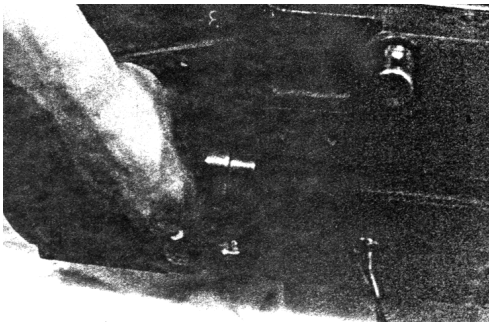
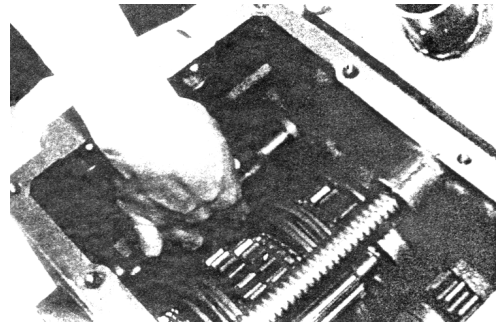

Fig. 3-23
Fig. 3-24
c) Properly fix the shaft arm (See Fig.3-23) and notice the position of the shift rod. (See Fig.3-24)